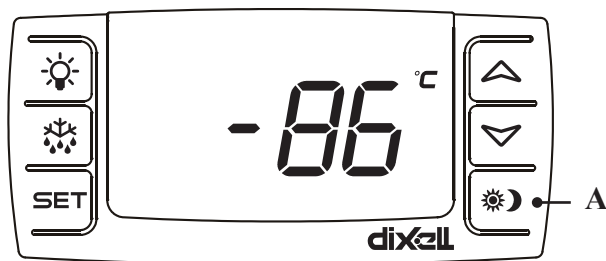

fig. 4
The appliance is equipped with electronic controls (fig. 4).
**NOTE:** The first time the power is connected, press the “A” (Fig. 4), thereby the alarm will be connected
Set the alarm off by pressing the “A” (fig. 4), and display shows “OFF”, and then disconnect the power supply.